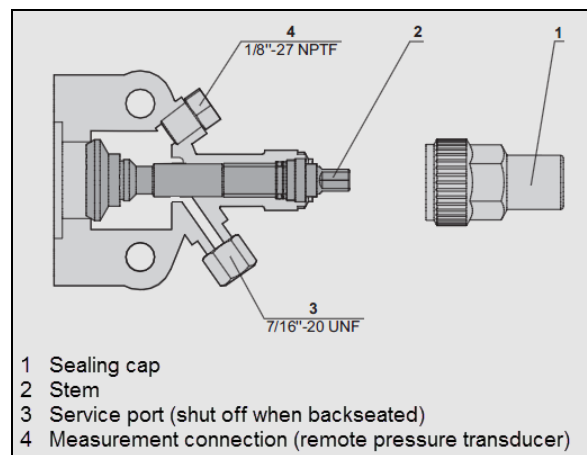

FIGURE 78: COMPRESSOR SHUT-OFF VALVE IN FRONT SEATED POSITION
10. Close (frontseat) the suction shut-off valve on the compressor (FIGURE 78).